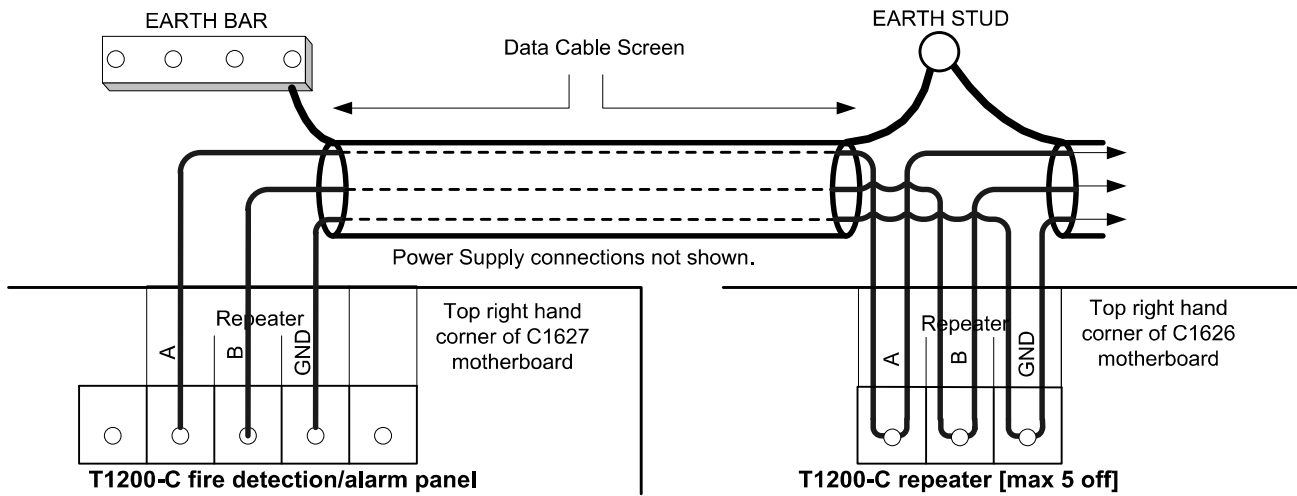

Figure 4— Repeater connection diagram
4. Connect the RS485 data cable as shown in Figure 4.